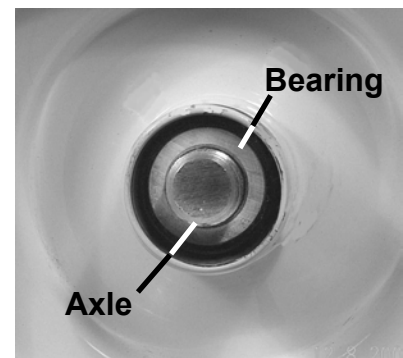

Figure 2
5. With the valve stem facing out, slide the wheel on the axle, making certain the inside and outside bearings remain seated in place in the wheel hub (*Figure 2*).